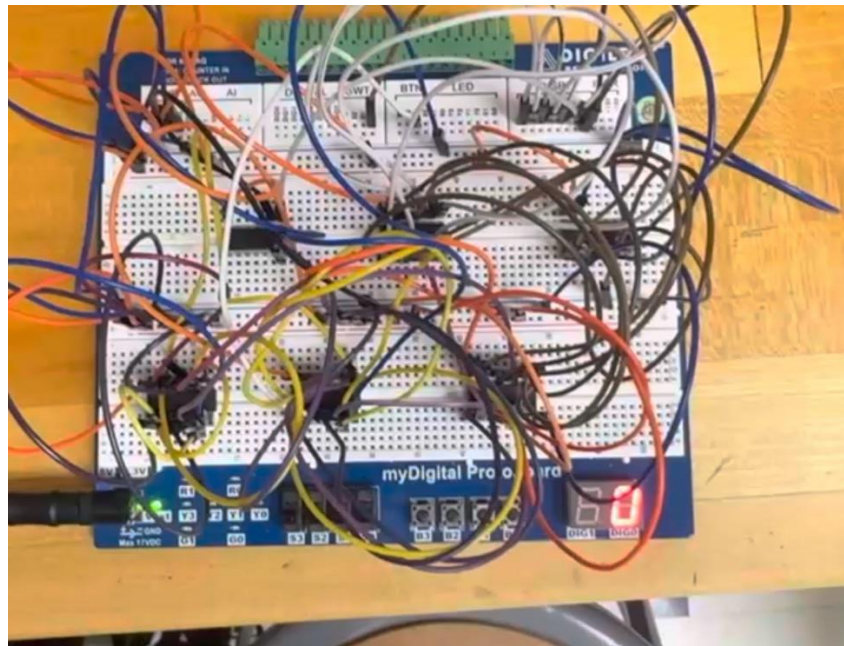

Figure 7: Completed 4-Bit Counter with Multiplexed Displays on Protoboard
15. Your circuit should appear similar to Figure 7, record its outputs and take a video of your circuit.